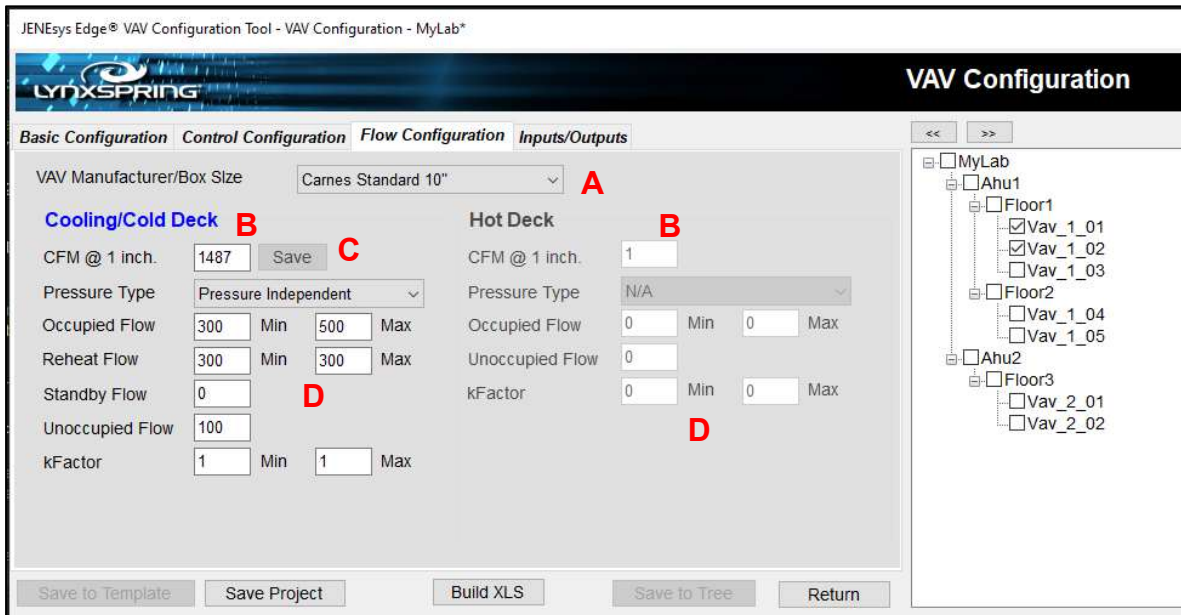

Figure 17
The Flow Configuration tab (figure 17) is used to enter flow settings for the VAV. This includes selecting the VAV box manufacturer and the box size. This is done in the dropdown list at the top of the tab (A).